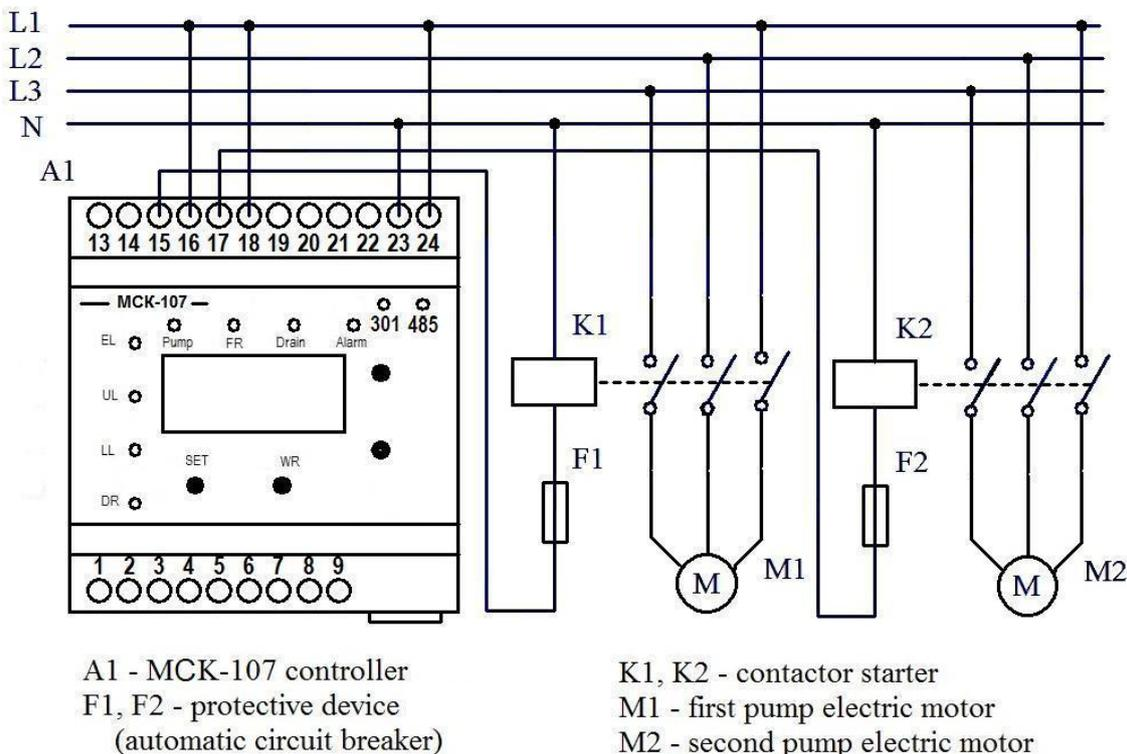

Figure 2.6 – Connection of two pumps to MCK-107
- connect the contactor starter of the second pump electric motor according to Figure 2.6;